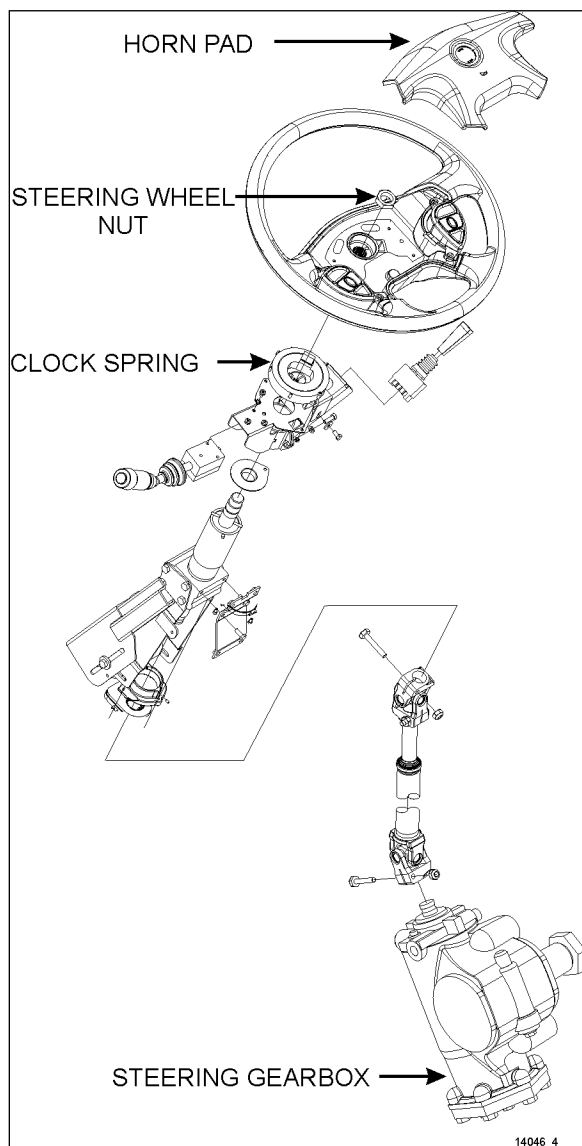
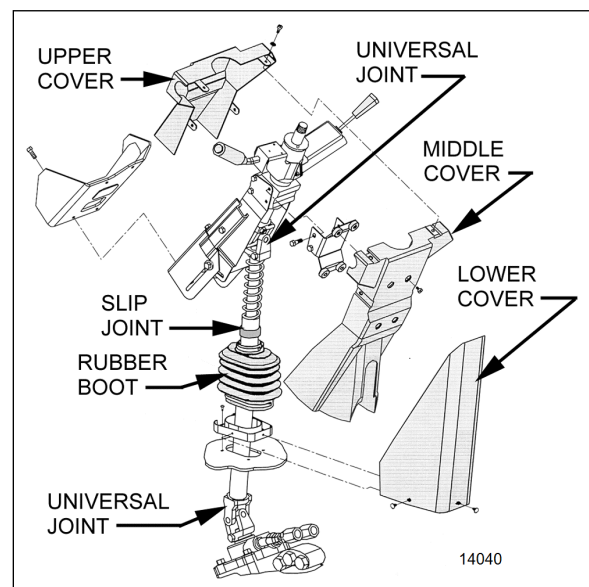

FIGURE 45: STEERING COLUMN
FIGURE 46: STEERING COLUMN COVERS
To disassemble the steering column from system, refer to Figure 45 & Figure 46. The steering column has no lubrication points. The lower steering column U-joint is easily accessible through the front service compartment. The upper steering column U-joint and the steering slip joint are accessible from the front driver's area. To access these joints, proceed as follows:
1. From the front driver's compartment area, remove the three plastic fasteners on steering column lower cover. Remove the lower cover (Figure 46).